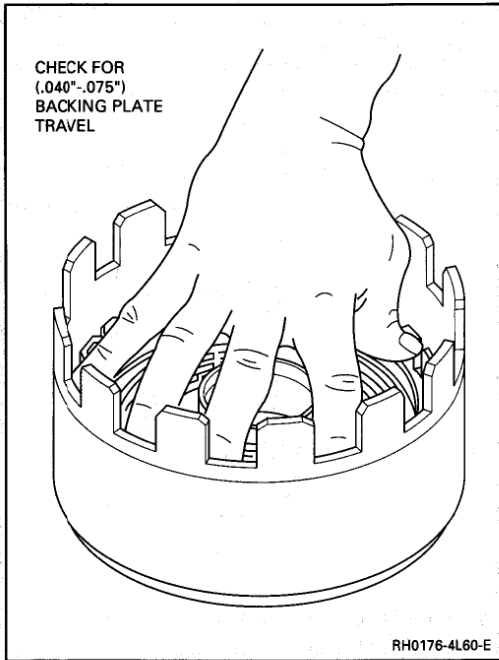

Figure 81 Reverse Input Backing Plate Selection
Reverse Input Clutch Backing Plate Selection**Figures 81, 82 and 83****Measure**
1. With the reverse input clutch fully assembled, apply an evenly distributed load to the clutch pack in the direction shown in Figure 81. Medium pressure (approximately 89 N or 20 lbs.) on the backing plate applied by hand on five evenly distributed points will obtain the backing plate travel for measurement.